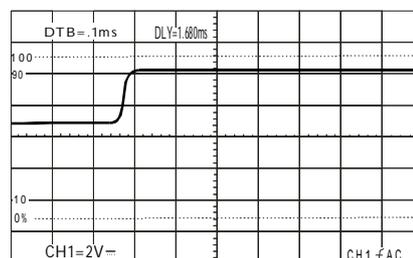

Figure 5-10 Delay Mode
- 5 . Set the DELAY mode to measure the magnified waveform only by pressing the MAIN/ALT/DELAY button. The magnified waveform shown in figure 5-10.